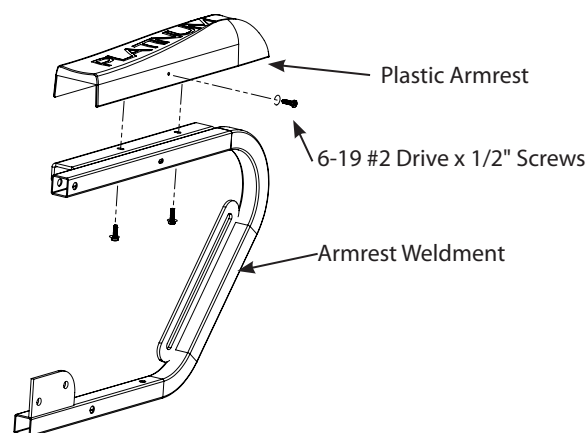

Figure 3
3. Attach the plastic armrest (14284) to the right and left armrest weldments (14008 & 14009, respectively) using (6) provided 6-19 #2 Drive x 1/2" screws. **SEE FIGURE 3.**